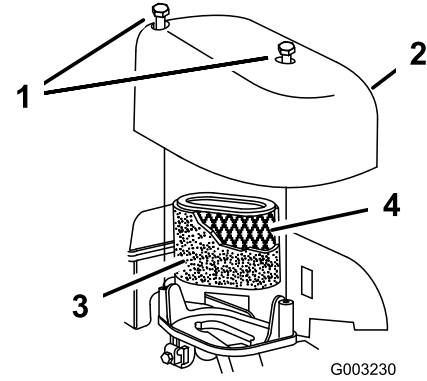

Figure 34
2. Remove the screws that secure the air filter cover (Figure 34).
4. Remove the foam pre-cleaner (Figure 34).
5. Remove the paper air cleaner (Figure 34) and discard it.